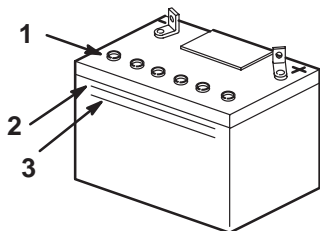

Figure 26
2. Look at the side of the battery. The electrolyte must be up to the Upper line (Fig. 26). Do not allow the electrolyte to fall below the Lower line (Fig. 26).
3. Remove the vent caps from the battery (Fig. 26).
4. Slowly pour distilled water into each battery cell until the electrolyte level is up to the Upper line (Fig. 26) on the battery case.
5. Wait five to ten minutes after filling the battery cells. Add distilled water, if necessary, until the electrolyte level is up to the Upper line (Fig. 26) on the battery case.